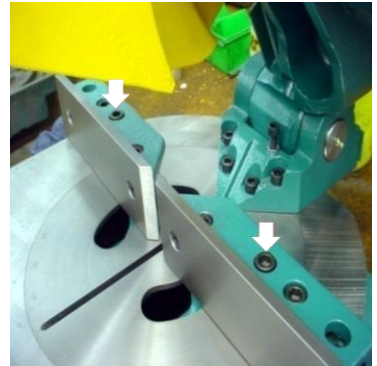

Figure 11. Angular Adjustment Bolts
- iii) To adjust the angle of the cutting surface, if necessary, loosen the 2 bolts, as shown in Figure 11. Fine-tune the angle required, then replace and re-tighten the 2 bolts.